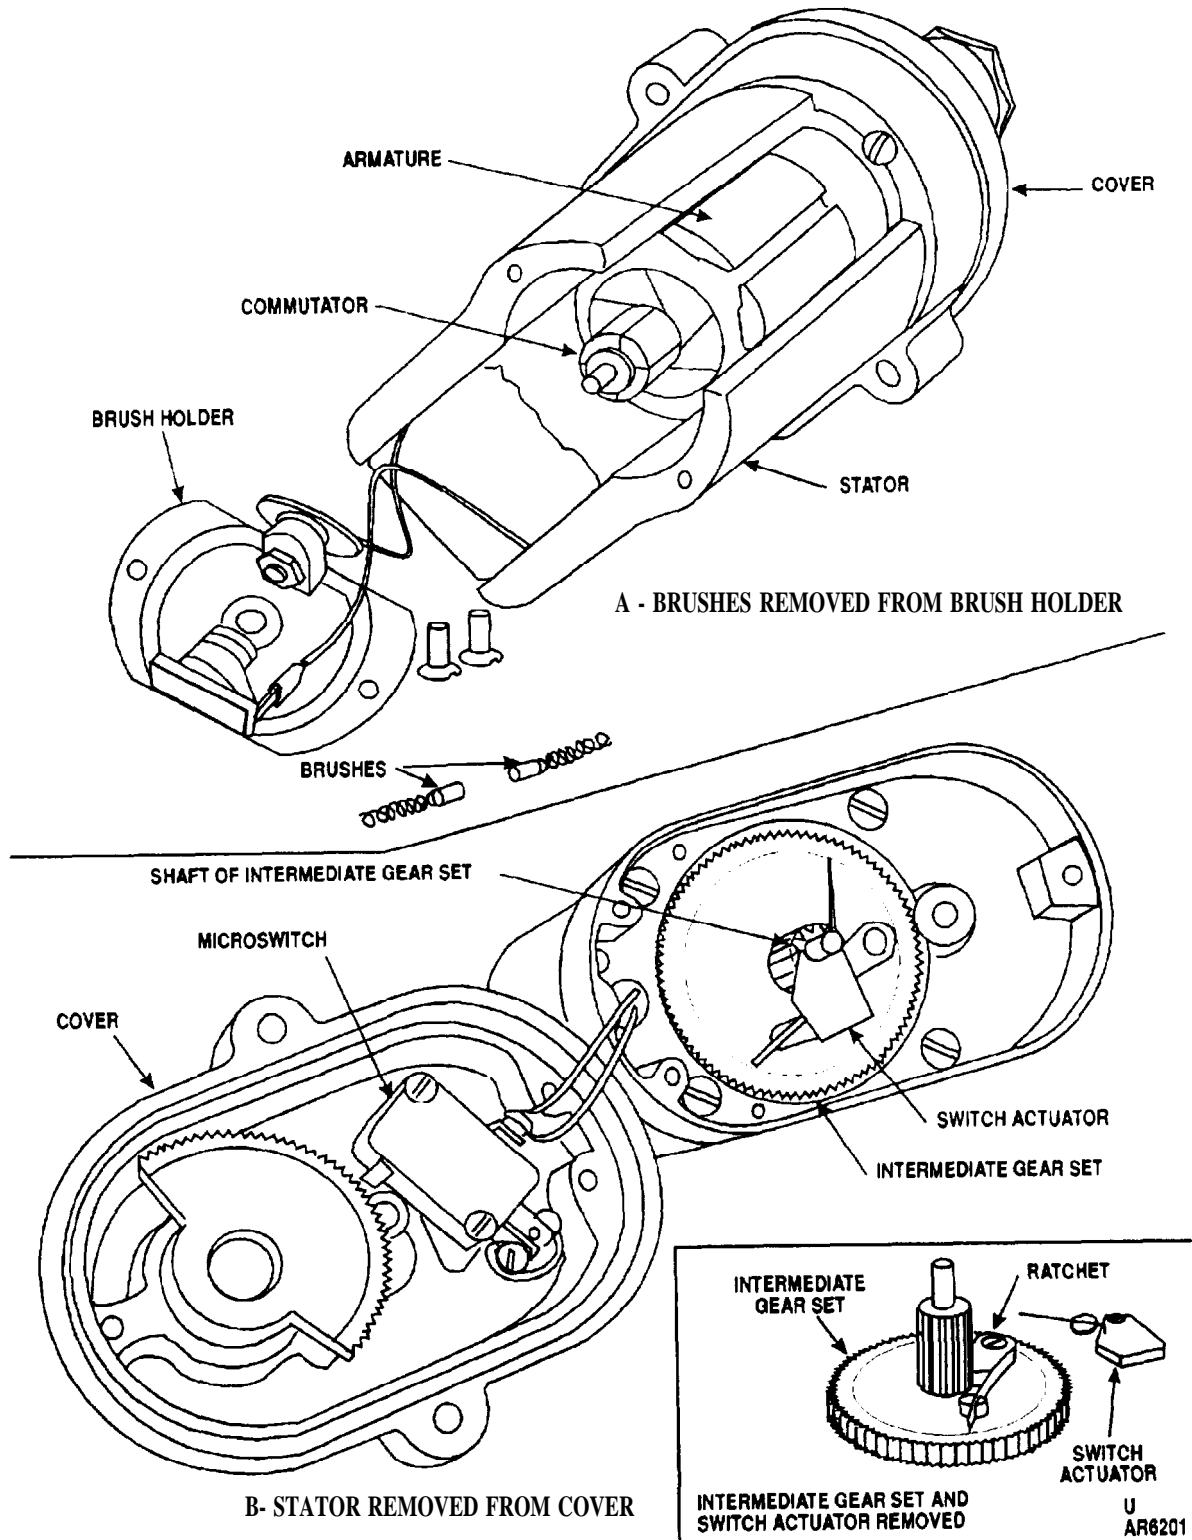

Figure 4-5. Fidelity-type 10-cap blasting machine - partially disassembled.
- Refer to figure 4-5 and 4-6 as a guide in cleaning and servicing procedure below. Figure 4-5 is an exploded view of a plunger-type blasting machine. The only major difference between the plunger-type machines, besides their size, is that the newer 50-cap machines have a safety circuit instead of a switch assembly.